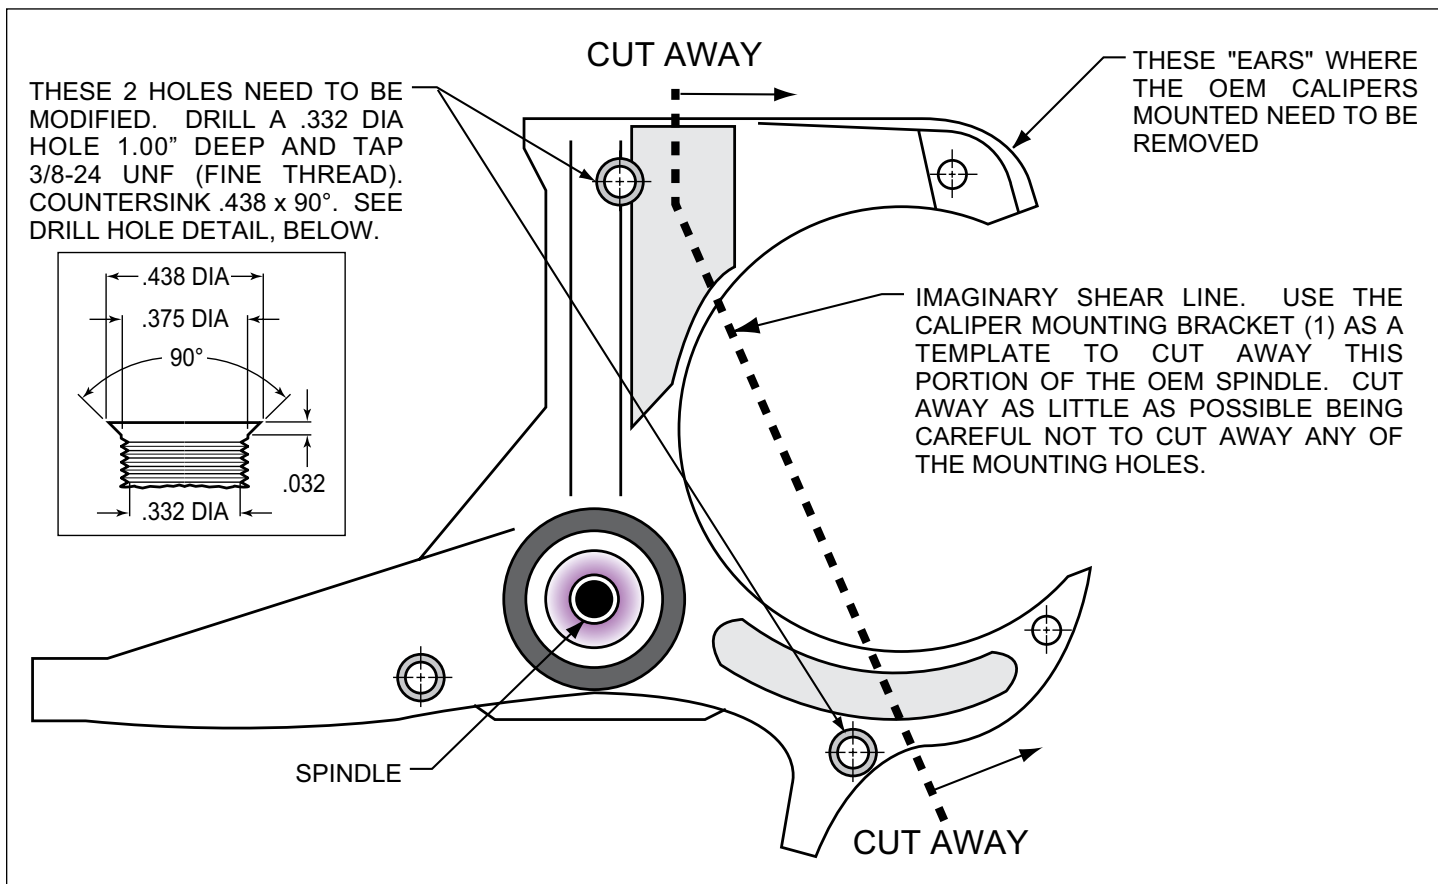

Figure 1. Steering Arm / Spindle Modifications
**NOTE:** These modifications should be performed by a qualified machinist and completed before assembly of the Wilwood disc brake kit begins. Refer to Figure 1 as necessary (numbers in parenthesis refer to the parts list). Only one view of the steering arm/spindle is shown, but the modifications need to be performed on both steering arm/spindles.
The two OEM holes that will be used to mount the caliper mounting bracket (1) need to be modified. Drill a .332 diameter hole through both holes, Figure 1, then tap 3/8-24 UNF (fine thread). Countersink the holes to .438 x 90°. The "ears" that protrude to form a "C" shape need to be removed to facilitate the installation of the Wilwood kit. Using the bracket as a template, mark two cut marks on the steering arm. Remove as little as necessary from the "C" shape, being careful not to cut away any of the mounting holes required to bolt on the bracket.
- Remove the two pad retaining pins from the caliper (15) by carefully popping out the pin retaining clips and sliding out the pins. Insert the brake pads (19) into the caliper from the bottom, Figure 1 and Photo 10, with the friction material facing the rotor. Secure the brake pads in place with the pad retaining pins and clips, Photo 11. Reinstall the caliper onto the caliper mounting bracket. Apply red *Loctite*® 271 to bolt threads (17), and torque to 40 ft-lb.